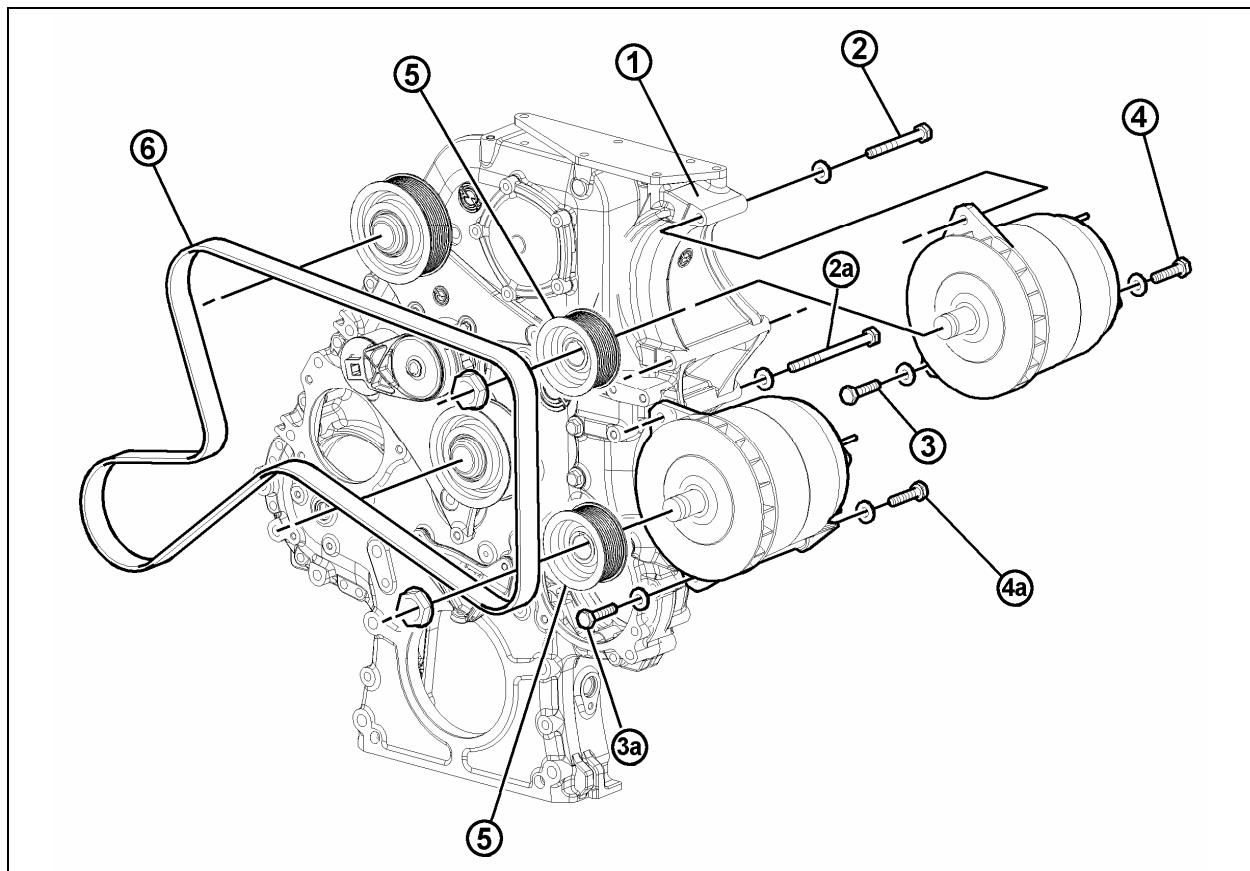
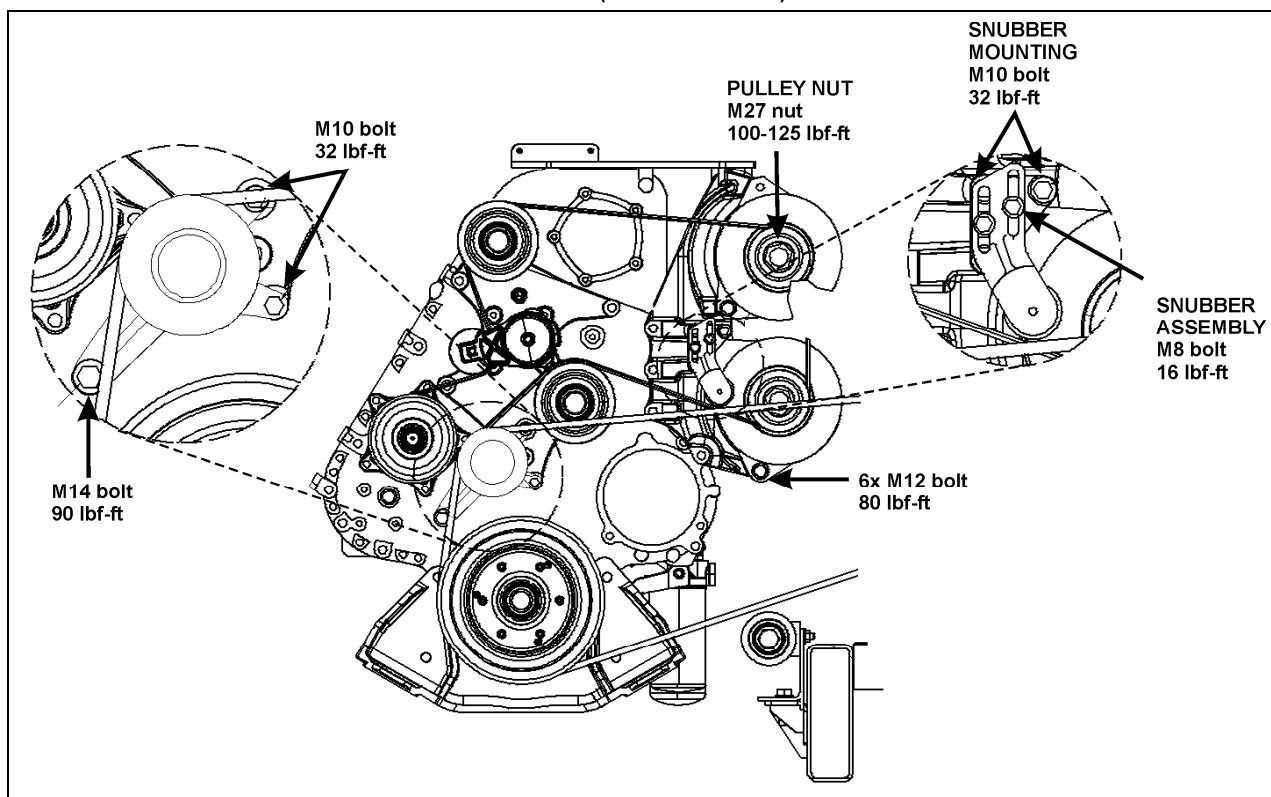

FIGURE 19: TWIN BOSCH ALTERNATORS INSTALLATION (DDEC SERIES 60)
FIGURE 20: ALTERNATORS AND ACCESSORIES MOUNTING TORQUES (DDEC SERIES 60)
- Replace the module (for IO-B modules, disconnect the green connector first, then the grey one and finish with the black connector. To disconnect the black connector, slide downwards the red latch. Remove the lower screw that holds the cable attachment rod onto the floor portion of the panel and flip the rod up, this will relieve the IO-B module, see figure 19).
If the alternators needed to be removed, reinstall as follows. Refer to figure 19 for installation and to figure 20 for tightening specifications:
1. Install alternator mounting bracket (1, figure 19) to the gear case. Use the four flanged phosphor alloy bolts on the pulley end of the bracket and the flanged nuts at the transmission end of the bracket;
2. Bolt the alternators to the bracket using the three inch bolt at the top of the upper alternator (2, fig 19) and flanged bolts at the other mounting bosses (3 and 4, figure 19). Tighten the bolts in the sliding sleeves (4, figure 19) last as they will adjust to prevent breaking the alternator mounting bosses upon final tightening. Repeat for the second alternator (2A, 3A, 4A, Figure 19);
3. On the drive shafts of both alternators, install key, pulley, spring washer and nut (5, figure 19);
4. Install the snubber bracket (fig. 20) using three flanged bolts. Do not tighten the adjustment bolts on the snubber until after final tightening;
5. Install the compressor belt idler pulley (fig. 20) as shown. A stud inserts into one of the mounting holes of the pulley assembly. Fasten this one using a nut and bolts for the other two.
6. Install alternator belt (6, figure 19).